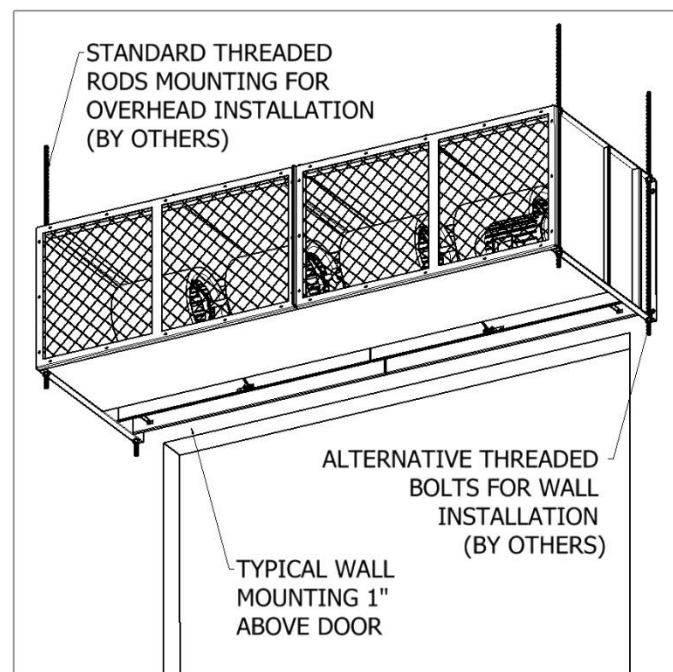

FIG. 1
4. Use four (4) threaded rods for overhead installation or four (4) threaded bolts for wall installation. All hardware is field provided by others. (FIG. 1)